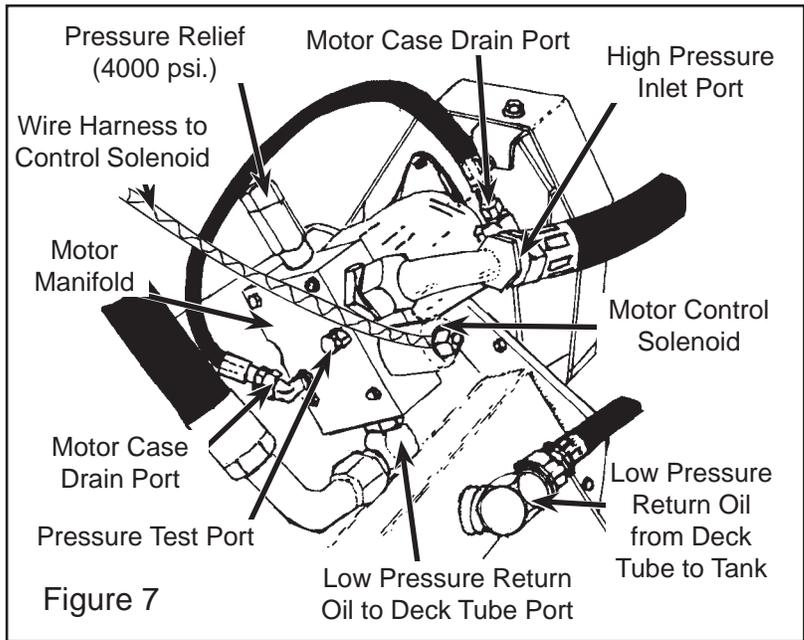

Figure 7
1. Motor control manifold. Motor control manifold components can be replaced, block, test port plug, machining port plug, pressure relief valve, solenoid valve and/or solenoid valve components. Reference to parts manual for replacement part numbers. (See Figure 7, 8 & 9) The motor manifold can be removed and/or replaced without removing motor, or it can be removed with the motor. The procedure to remove, repair and/or replace will be the same. For illustration it will be assumed the manifold was removed with the motor.
9. Reassembly of manifold. With manifold secure re install components to the manifold. (See Figure 7, 8 & 9)